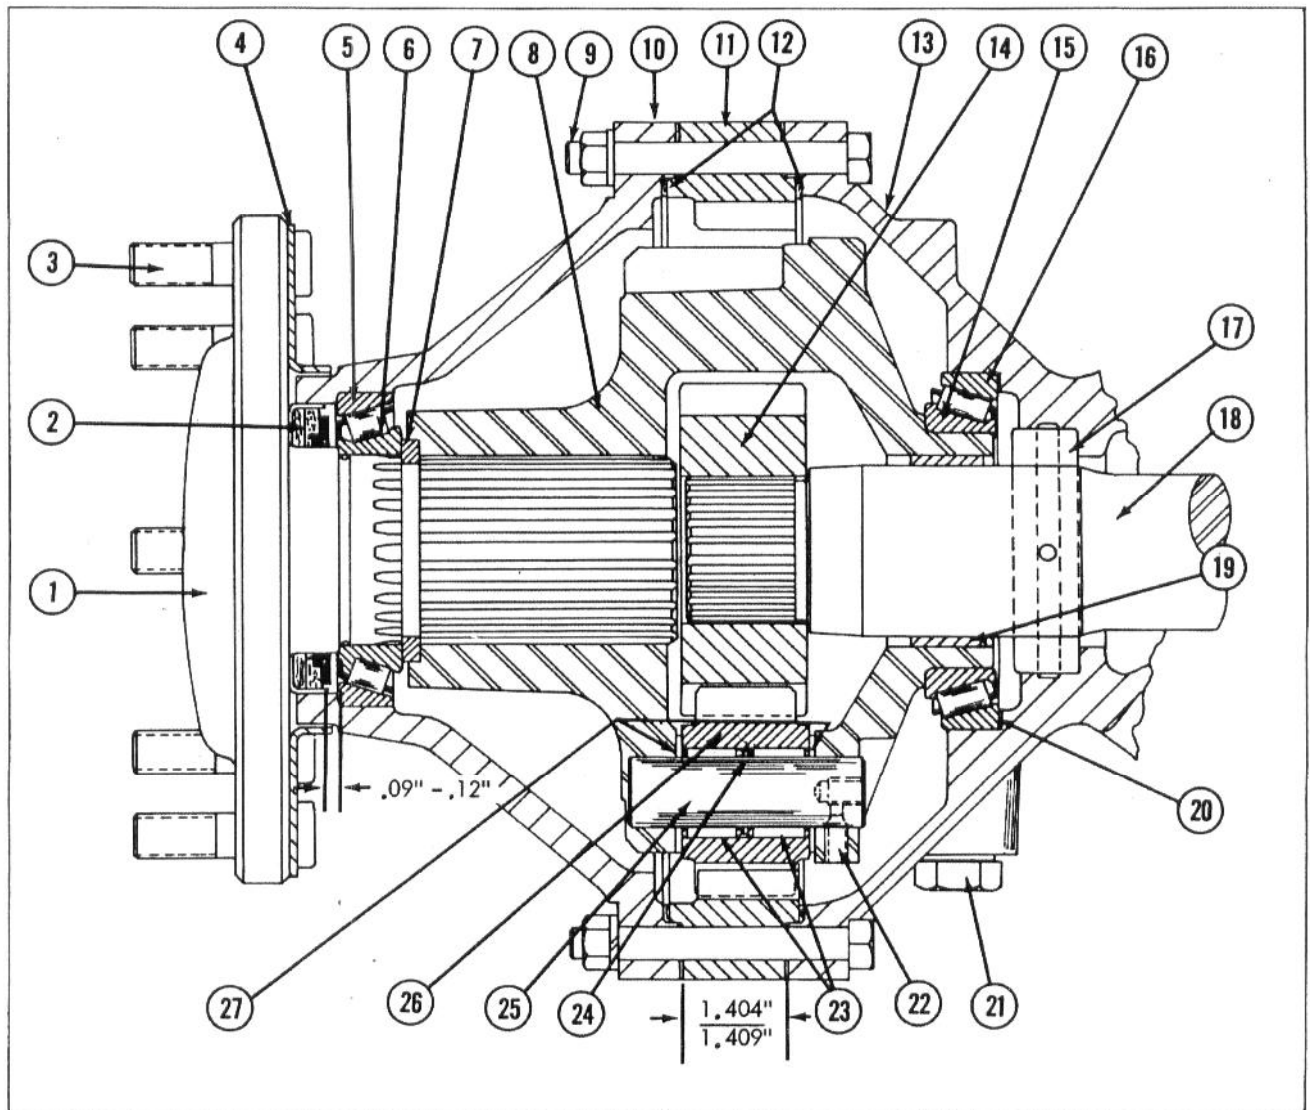

Fig. 25 - Axle Planetary Assembly - Wide Ring Gear
- c. Install the seal so that its inside edge is from .09" to .12" from the outside edge of the bearing cup. Refer to Fig. 25.